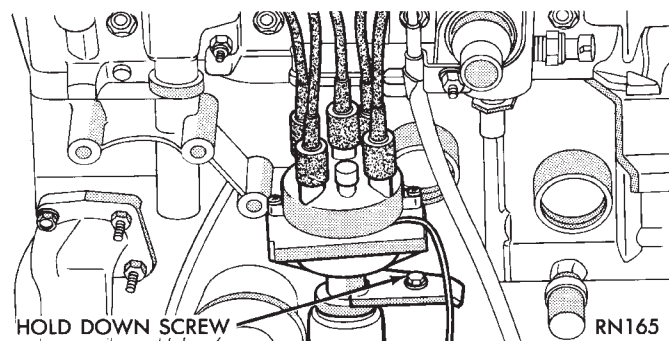
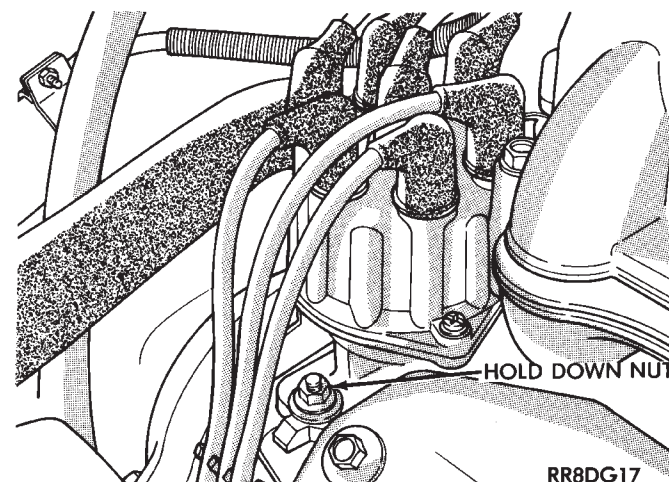

Fig. 12 Distributor Holddown—2.5L Engine
Fig. 13 Distributor Holddown—3.0L Engine
(7) Loosen distributor hold-down arm screw enough to rotate the distributor housing (Fig. 12 or Fig. 13). Turn distributor housing to adjust timing. Tighten the hold-down arm screw and recheck timing.
(8) Turn the engine off. Remove timing light or magnetic timing unit and tachometer. If the coolant temperature sensor was disconnected, connect the sensor and **erase fault codes using the Erase Fault Code Mode on the DRBII.**